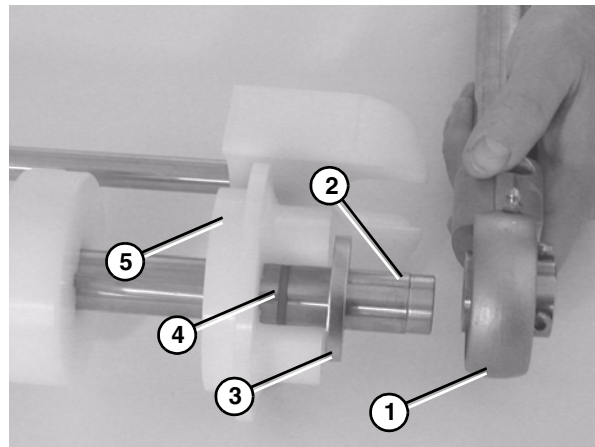

Figure 71
5. Slide off bearing shaft assembly (**Figure 71, item 1**), washer (**Figure 71, item 3**), O-ring (**Figure 71, item 4**), and flanged puck (**Figure 71, item 5**) off the idler shaft (**Figure 71, item 2**).